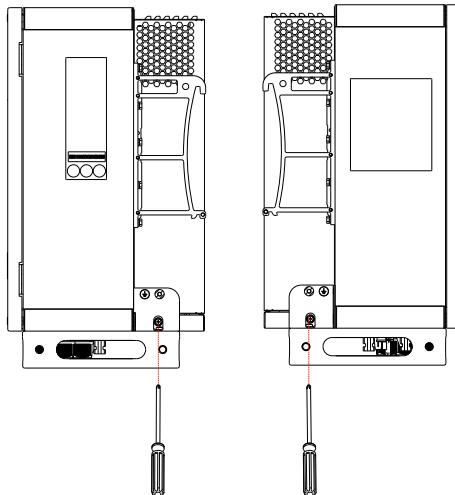

Figure 5-2 WIT Side View
Step 2: Remove the fan fixing plate with a Phillips screwdriver, as shown in Figure 5-2: